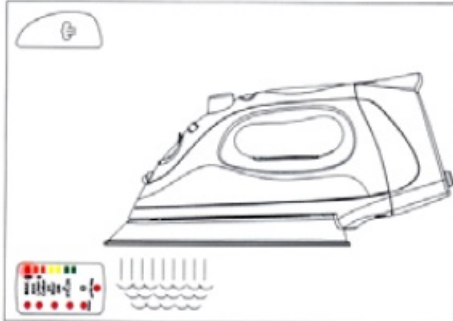

Fig. 2
4. Place the iron on its heel on a stable, protected surface and allow the iron to heat for approximately two (2) minutes or until the temperature settings on the right side of the LED display panel have stopped flashing.
5. Turn the variable steam control dial to the right to increase the amount of steam. When using extra steam, the iron uses more water and it may be necessary to fill the water tank more often. (Fig. 2)